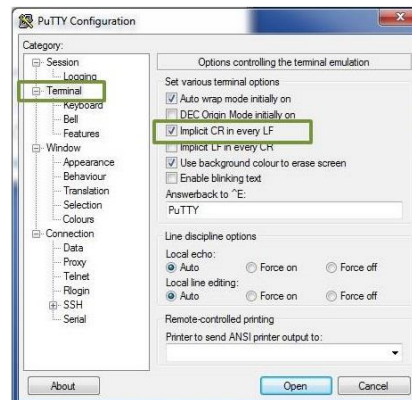

Figure 8: PuTTY Configuration - 2
3. Under Category, select “Terminal”, and check “Implicit CR in every LF” checkbox (refer to Figure 8).